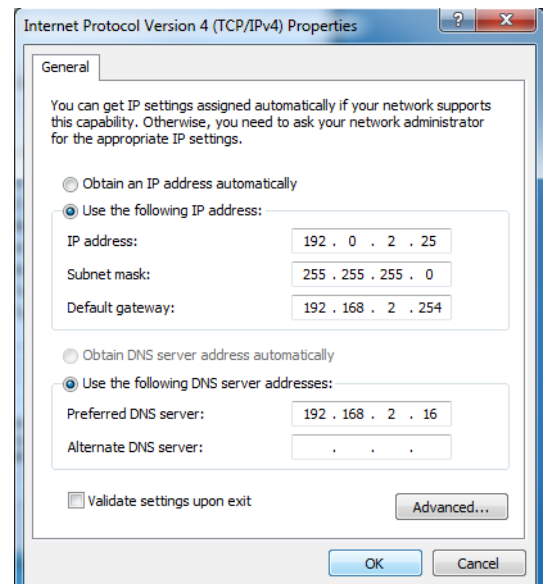

Figure 1.
7. Select **Use the following IP address** and then enter e.g. the 192.0.2.25 **IP address** and the 255.255.255.0 **subnet mask** as shown on *Figure 1*.